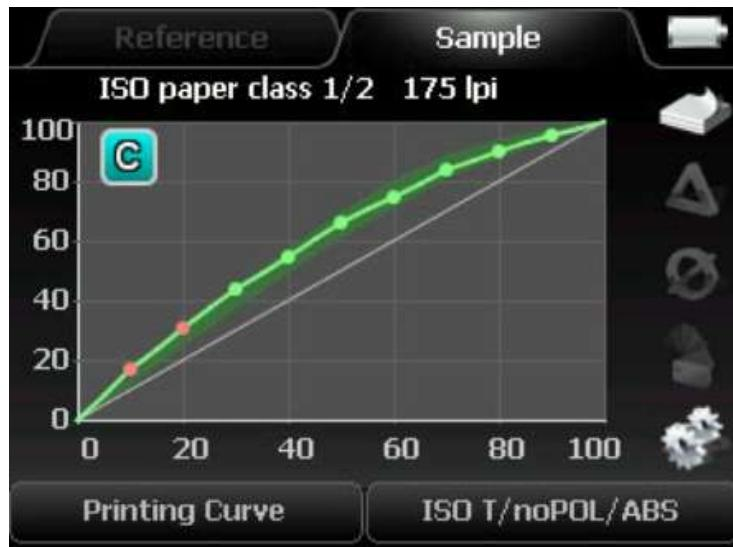

Figure 1 – Techkon SpectroDens in Printing Curve mode
- report discrepancies as 4 corrective one-dimensional look-up-table curves (one for each printer). (Figure 1 shows the display screen of the Techkon SpectroDens measurement function called "Print Curve" which generates the 1-D correction curves. The look-up-table curves are applied through the CtP's RIP. The P2P target plate can then be burned again, printed, and measured to confirm press aim requirements.)